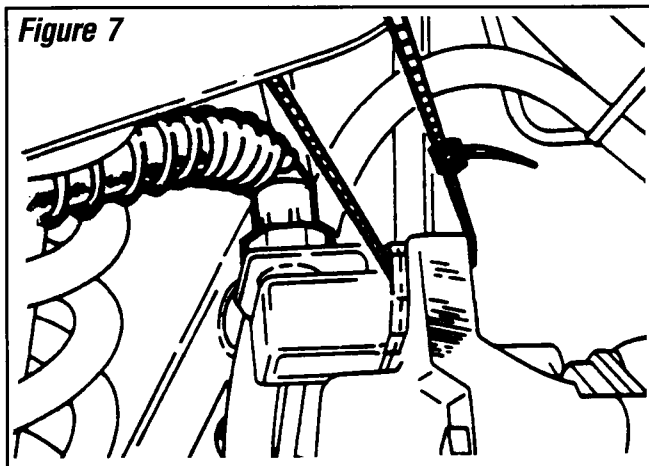

Figure 7
4. Remove both brake caliper mounting bolts and position caliper assembly out of the way. Caliper must not be suspended by brake hose. *Fig. 7*